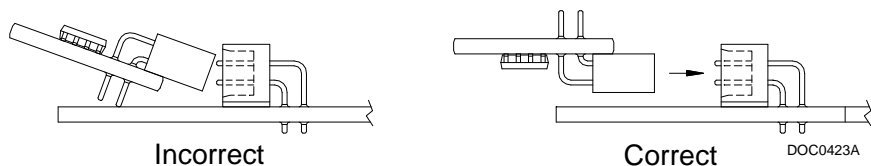

Figure 3. License Key Installation
6. Press the license key into the terminal until it is firmly seated (refer to *Figure 3*).